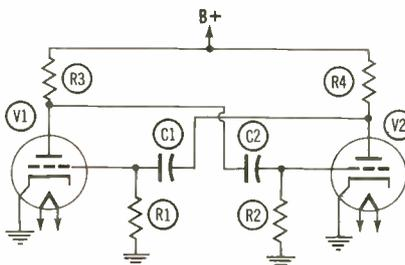
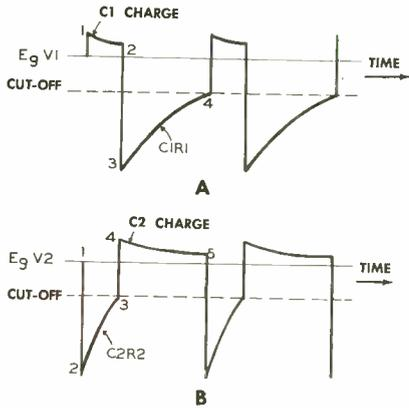
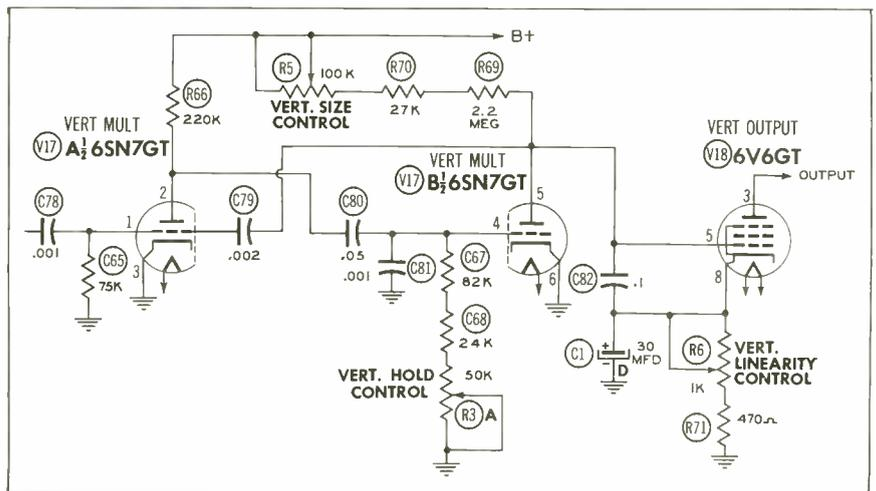
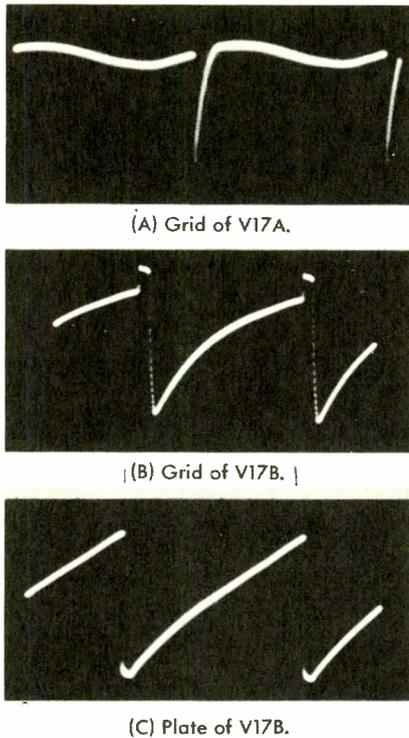

Figure 7-14. A Basic Multivibrator Circuit.
Figure 7-16. Grid Waveform of each Section of the Free-running Multivibrator of Fig. 7-14.
Figure 7-17. A Commercial Type Plate-coupled Multivibrator.
Figure 7-18. Operating Waveforms of the Plate-coupled Multivibrator of Fig. 7-17
In Figure 7-14 is shown the basic circuit of a multivibrator. This circuit is known as a plate-coupled multivibrator. Basically the circuit is a two-stage amplifier. In order to sustain oscillations, the output of the second stage (V2) is coupled back to the input of the first (V1). It is possible to obtain oscillations in a circuit of this type because the output voltage appearing at the plate of the second stage is in phase with the voltage appearing at the input of the first stage. This fact is always true in the case of an even number of stages of amplification. In this way, the voltages always aid rather than oppose each other.
The operation of the multivibrator of Figure 7-14 can best be explained by presenting a numerical sequence of the events which occur. With the assumption made in the previous paragraph, the operation of the multivibrator is as follows.
Figure 7-16 represents the grid waveform of each section of the free-running multivibrator of Figure 7-14. Waveform (A) is that which is present at the grid of V1. Waveform (B) is that which is present at the grid of V2. The portion of the waveform between points 1 and 2 of curve "A" is formed by the charging of C1. From point 2 to point 3, the voltage at the grid of V1 instantaneously drops far below the cutoff bias of the tube. The portion of the curve between points 3 and 4 of curve "A" is formed by the discharge of capacitor C1. At point 4 the waveform is repeated.
A commercial type multivibrator used for the generation of the vertical sweep voltage is shown in Figure 7-17. This circuit incorporates the use of a plate-coupled multivibrator, which is representative of the type of circuit in Figure 7-14. This circuit follows through
the same operation as was discussed in the previous section concerning the basic plate-coupled multivibrator. The only difference between the two circuits being the commercial circuit contains more components than the basic circuit of Figure 7-14. If the components of Figure 7-17 were lumped together the circuit would correspond to that of Figure 7-14.
The discharge capacitor of the multivibrator of Figure 7-17 is C82. This capacitor acquires its charge from the B plus supply through the plate load resistance of V17B while this section is not conducting. During the time section B is in conduction, the discharge capacitor discharges through the cathode resistance of the output amplifier and the low resistive path of V17B.
The waveforms of Figure 7-18 show the operation of the plate-coupled multivibrator of Figure 7-17. Waveform "A" is the one present on grid number 1, while waveform "B" is the one that is present on grid number 4. Waveform "C" is the output sawtooth of the multivibrator.